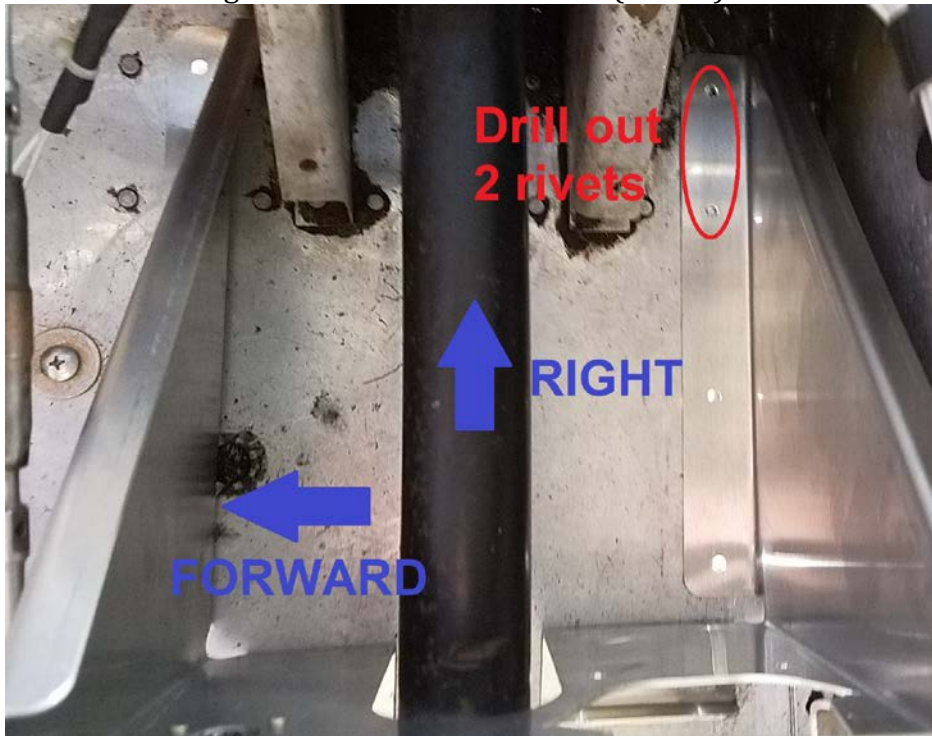

Figure 2-8
- 1.13. Remove the pitch bracket assembly (P/N 7200-103). Drill out 2 rivets through the lower fuselage skin in the locations shown in Figure 2-8. After rivet removal enlarge the holes with a #18 drill (.1695”).